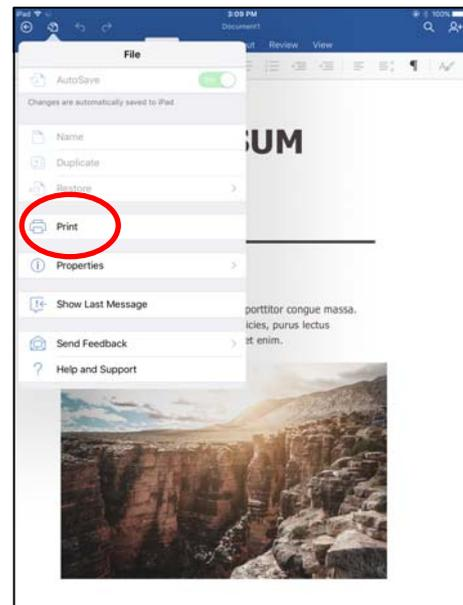

Figure 40
2.4 When the menu pops up, click "Print", as shown in Figure 40;